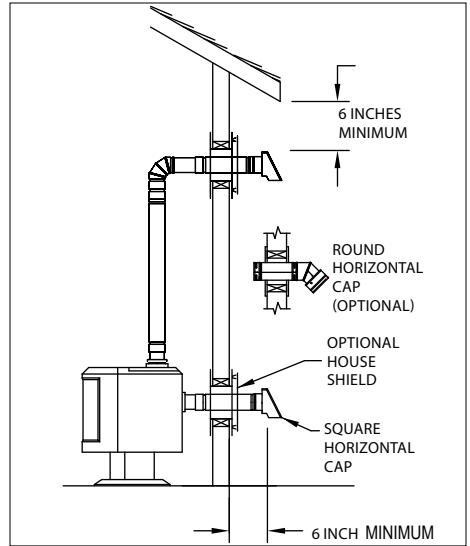

Figure 6
desired (**Figure 6**):
- B.** Connect the Pipe Adapter to back of stove and attach sufficient pipe to penetrate Wall Thimble and extend at least 6" beyond the exterior wall. You may install the optional House Shield as shown in **Figure 6**. The House Shield is used to protect the exterior wall from vent discharge. Attach a Square or Round Horizontal Cap. The Round Horizontal Cap can be swiveled to be directed away from nearby objects (fence, plants, etc.), but must still be pointing in a generally downward direction. Important: Horizontal Caps must be pointed in a generally downward direction to insure rain and snow do not enter the cap, and cause potential